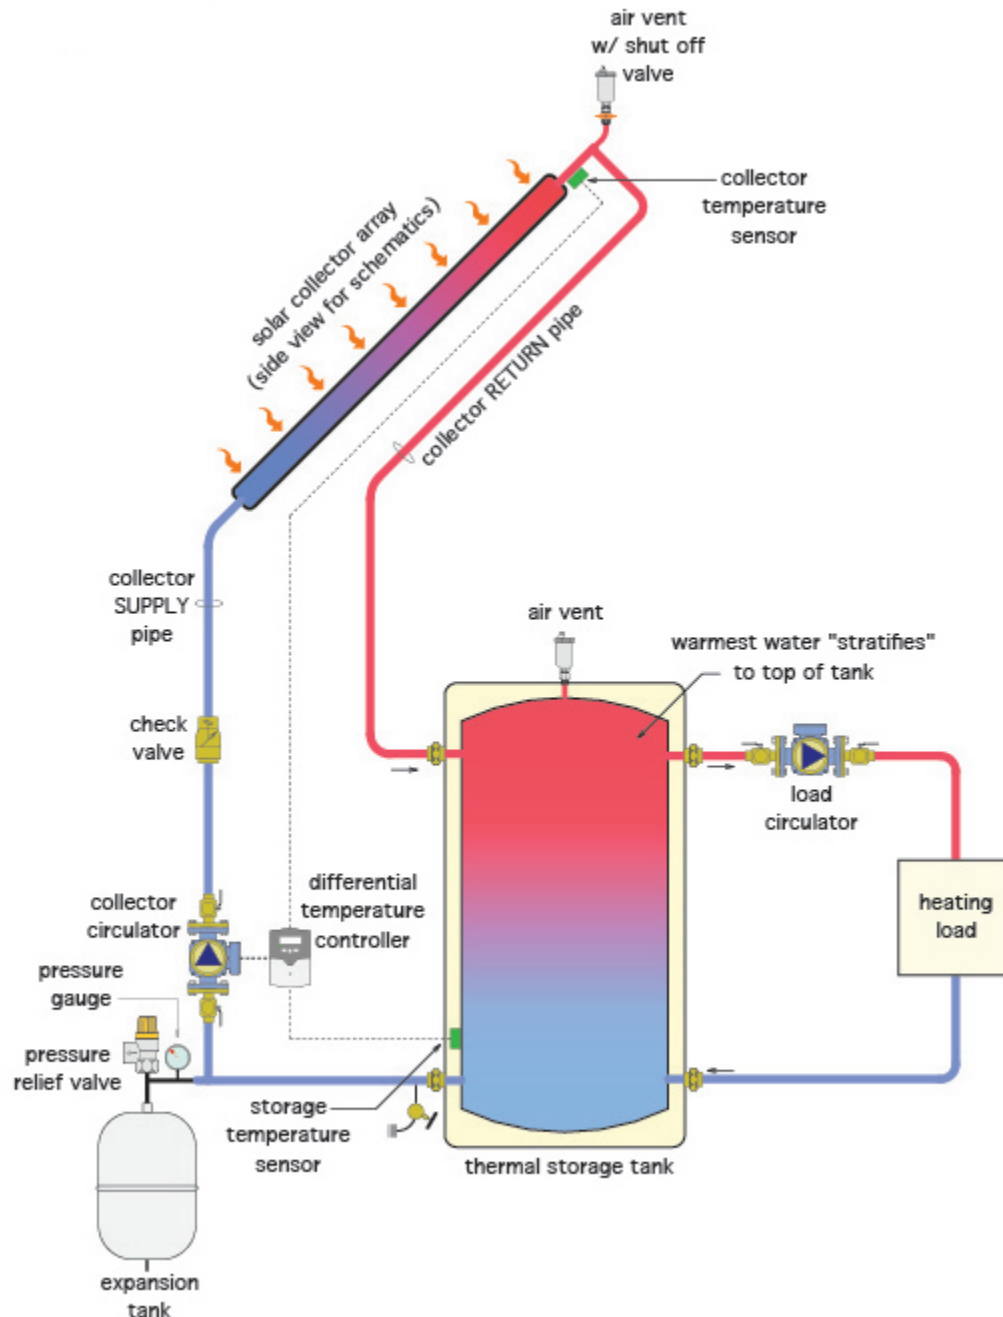

Figure 1 A basic closed active solar thermal system
- Figure 1 Passive building heating © Caleffi Hydronic Solutions. Used with permission.
There are many different ways to combine solar thermal collectors with system hardware to provide options for space heating as well as for domestic hot water. In some cases, both loads can be supplied from a single system. Figure 1 below shows probably the simplest active solar thermal system.